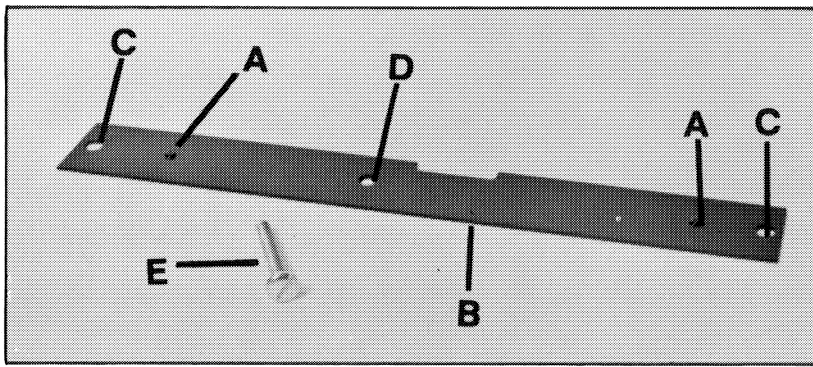

Fig. 5
There may be times when you will want to make special cuts such as rabbets, set and bevel cuts. You can make your own wood block fences to guide the plane for such cuts. The wood fences are attached to the adapter plate Fig. 5, by two small wood screws and the assembly is mounted on the plane base.
2. Position adapter plate on plane so bosses (A) Fig. 5, on plate nestle in the small holes in the base, and the cutter slots in the adapter plate and base match. Position wood block so one edge of the block is flush with right edge of plane base.
3. Insert two small wood screws thru holes (C) Fig. 5 of adapter plate, and screw into the wood block.
4. Using hole (D) in adapter plate, spot drill hole thru wood block. Use a drill bit that will provide a clearance hole for the adapter plate assembly mounting screw.
5. Place the adapter plate assembly on the plane base so bosses (A) Fig. 5 mate with the two holes in the plane base.
6. Insert the adapter plate assembly mounting screw (E) Fig. 5, thru the hole in the wood block and screw it into the tapped hole in the plane base. Tighten screw firmly. The plane is now ready to make the cut of the selected width. The wood block acts as a fence to guide the plane along the edge of the work.